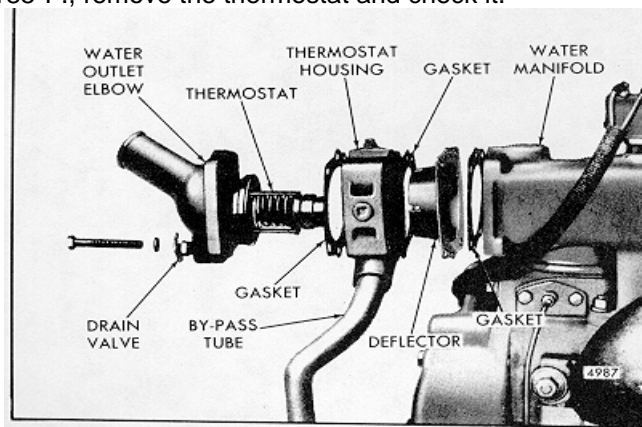
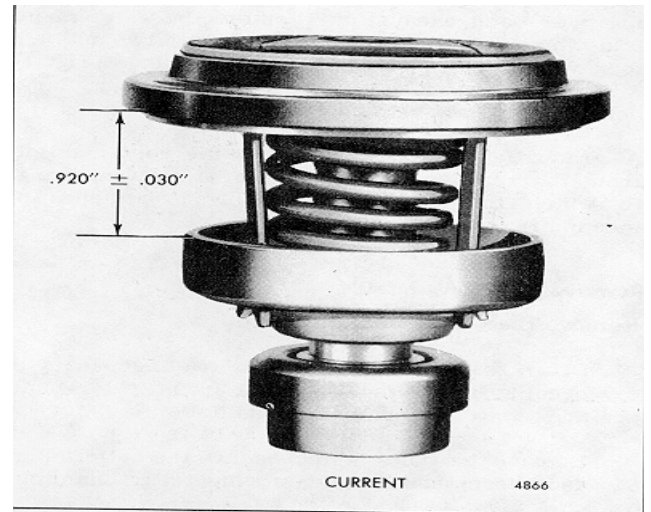

Fig. 1 - Typical Thermostat Housing Mounting
Fig. 2 - Semi-Blocking (Shielded) Type Thermostat
The temperature of the engine coolant is automatically controlled by a thermostat located in a housing connected to the outlet end of the water manifold. A blocking type thermostat (Fig. 1) is used when a standard cooling system is employed; a semi-blocking type thermostat (Fig. 2) is used with a rapid warm-up cooling system.
2. Remove the bolts which secure the outlet elbow and the thermostat housing (by-pass tube) to the water manifold (Fig. 1).